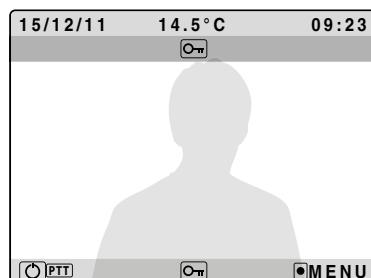

Fig. 2B
- To open the door press the  button **Fig.2B**;